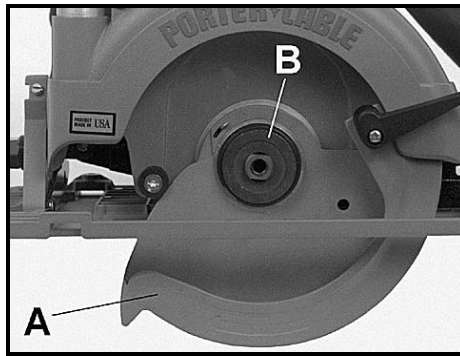

Fig. 3
⚠ WARNING: The telescoping guard (A) Fig. 3, is a safety device important to your protection. Every time you use the saw, see that the telescoping guard rotates freely and returns quickly and completely to its closed position. At least once a month, remove any accumulated sawdust, pitch, etc., from the area around the hub (B), of the telescoping guard. **DO NOT LUBRICATE THIS AREA.** The hub has a dry film lubricated surface that does not need oiling. **NEVER** block or wedge the telescoping guard in the open position.